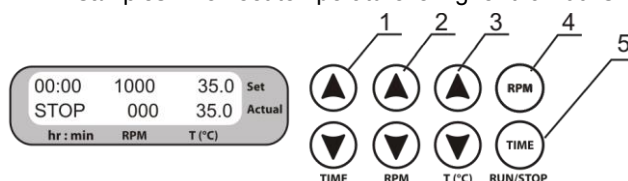

Figure 3. Control Panel
- 5.2.1. Simultaneously press and hold the **RPM RUN/STOP** and **TIME RUN/STOP** keys (fig. 3/4 and 3/5) to view the programming version (PV-XX).
- 5.4.1. **Setting time (TIME).** Using the ▲ and ▼ **TIME** keys (fig. 3/1) set the required working time interval in hours and minutes (increment 1 min).
- 5.4.2. **Setting speed (RPM).** Using the ▲ and ▼ **RPM** keys (fig. 3/2) set the required speed (increment 10 rpm).
- 5.4.3. **Setting temperature (T, °C).** Using the ▲ and ▼ T, °C keys (Fig. 3/3) set the necessary temperature (increment 0.1°C).
- 5.5.2. Press the **RPM RUN/STOP** key (fig. 3/4). The platform will start rotating and the timer indicator will start counting up the time interval (with 1 min precision).
- 5.7. If required, there is possibility to restart the timer when it is running. Press the **TIME RUN/STOP** key once (fig. 3/5) to stop the timer. Press the **TIME RUN/STOP** key again to restart the timer.
Caution! At the end of the set time period the platform movement is stopped automatically, but the heating can be stopped only manually by reducing the temperature using the ▼ T, °C key (Fig. 3/3 - lower key) till the OFF sign appears in the upper line (Set) of the display